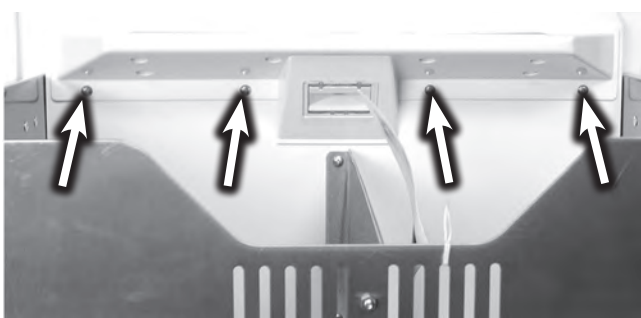

Figure 1
1. Remove the four screws securing the user interface housing to the drawer front, see figure 1.